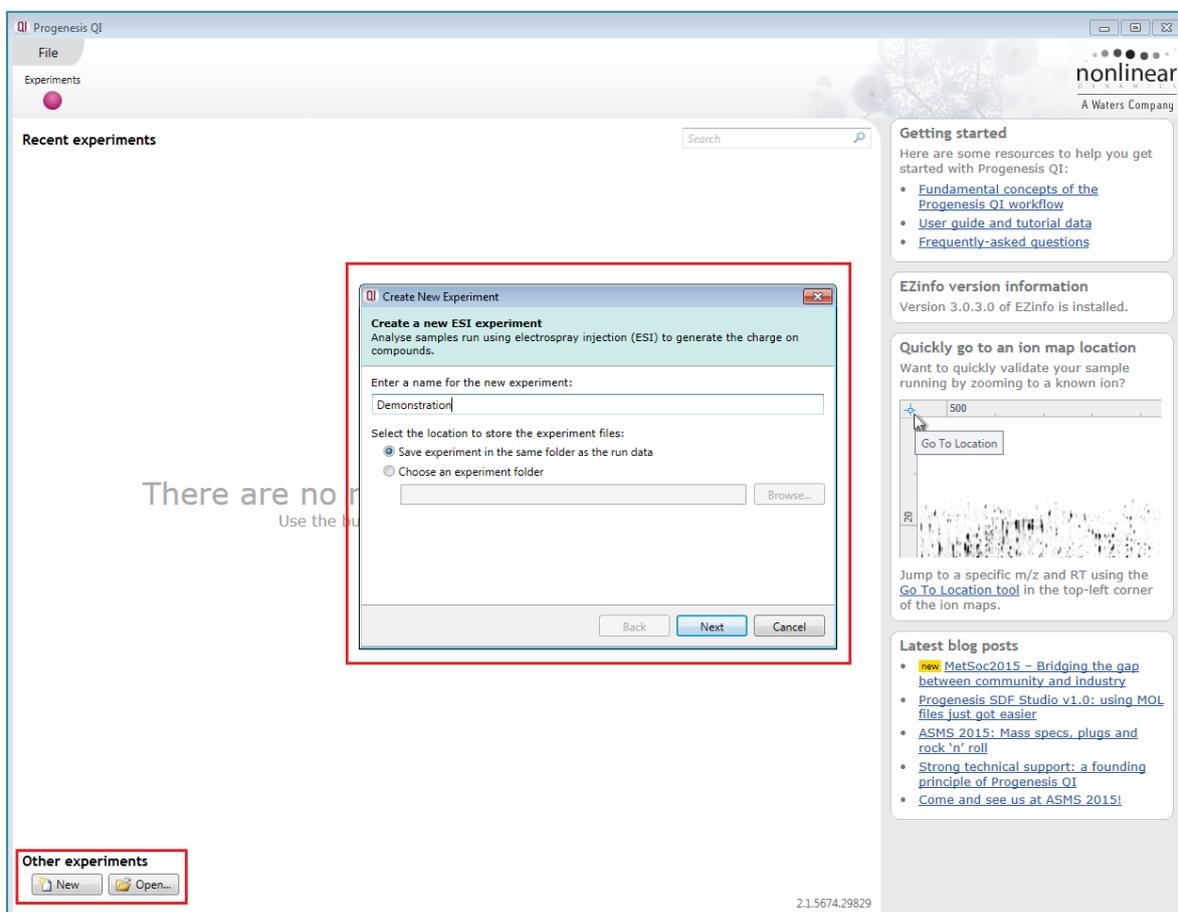

Figure 2: Creating a new experiment – generation and naming.
2. Below **Other experiments** at the welcome screen, click the **New** button (Figure 2).
3. Name your experiment appropriately in the pop-up dialog box, and choose where you wish to save the results of your analysis as you progress (Figure 2).